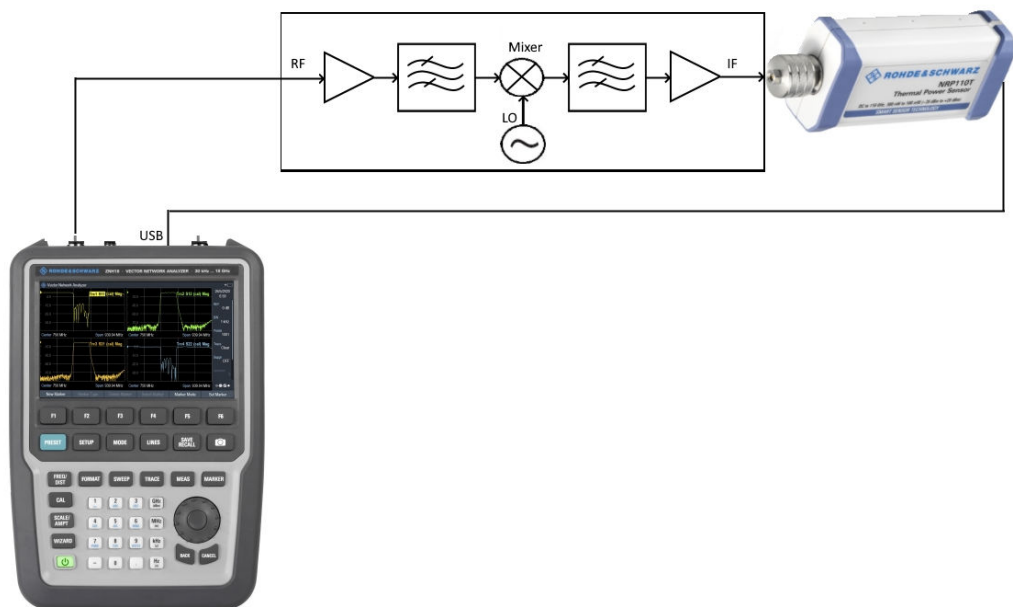

Figure 12-1: Typical setup for mixer measurement
RF mixer converts an RF signal at one frequency into a signal at another frequency. The frequency that is to be shifted is applied at the RF input. The frequency shifting signal (from a local oscillator, LO) is applied to the RF mixer's LO port, resulting in an output signal at the mixer's intermediate frequency (IF) port. See Figure 12-1.